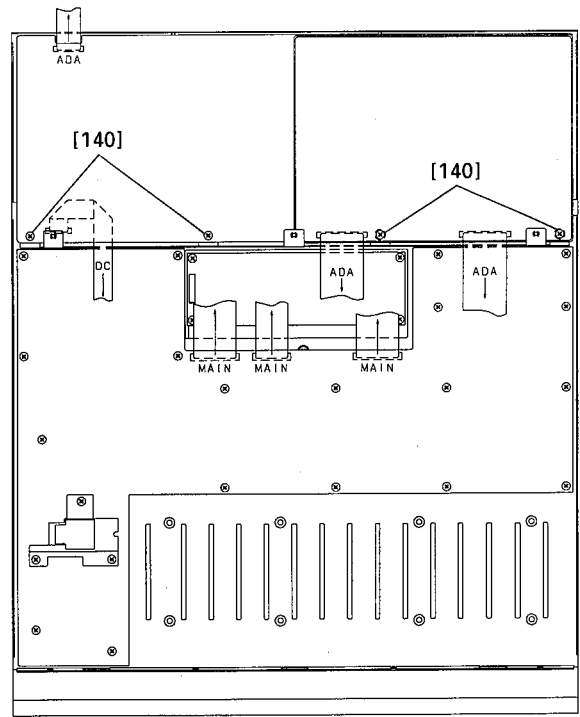

Fig.11 (図11)
- 6-4 Remove the four (4) screws marked [140]. The HA circuit board can then be removed. (Fig. 11)
- 6-4 HAシートの[140]Kネジ4本を外し、HAシートを外します。(図11)